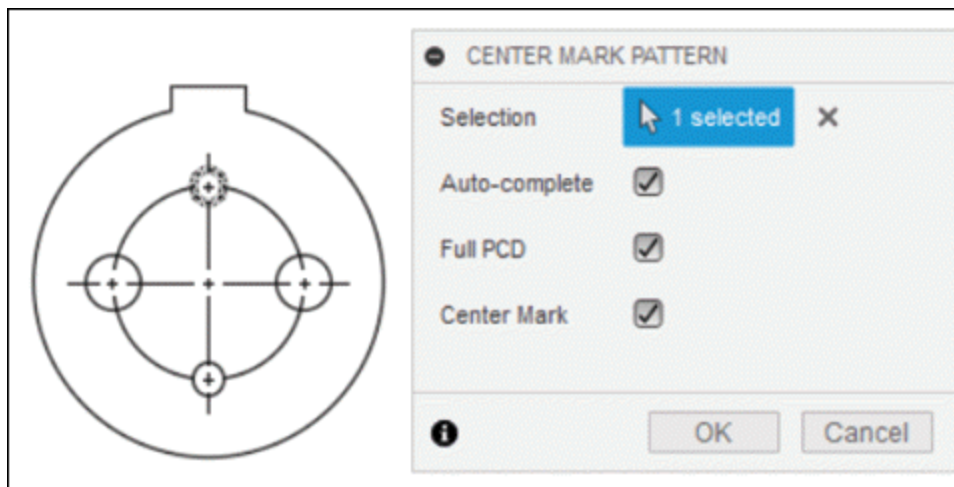

Figure-146. Preview of center mark pattern
- Click on one of the holes in the base view and select the **Center Mark** check box. The preview of center mark pattern will be displayed; refer to Figure-146.